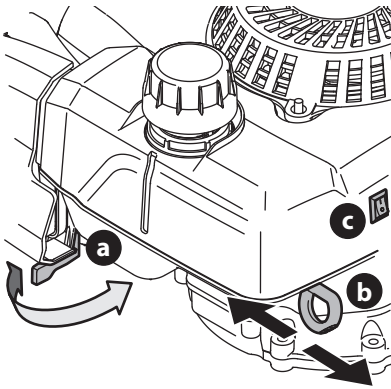

Figure 6
1. If equipped, ensure the fuel shut-off valve (a) is in the "ON" position (Figure 6).